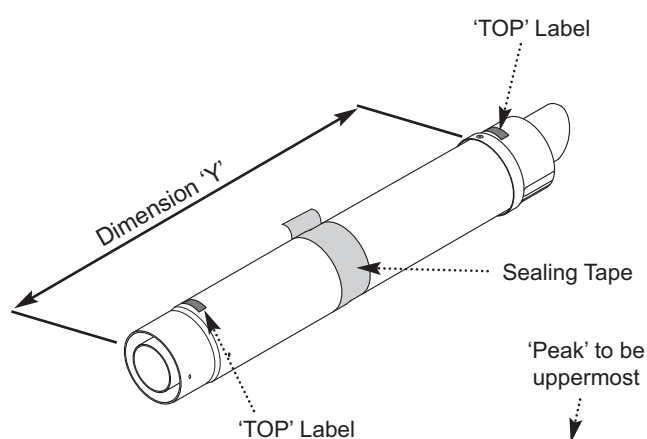

Fig. 27
8. Adjust the two telescopic sections to dimension 'Y' and seal the joint with the tape provided (Fig. 27). Ensure that the labels marked 'TOP' on the terminal and connection assemblies are uppermost.